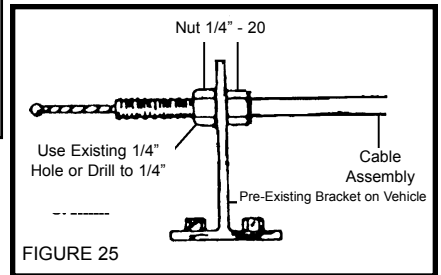

FIGURE 25
- e. The **1/4" - 20 NUT** can also be used if there is a pre-existing **1/4"** hole in a bracket on the vehicle or if it is possible to drill a **1/4"** hole in a bracket on the vehicle. **Figure 25**